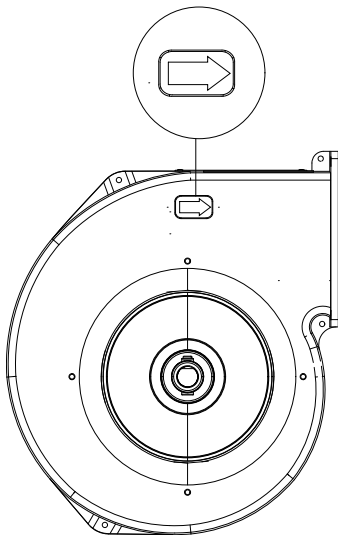

Fig. 2
The fan can be mounted in any direction. When the motor air intake is mounted upwards the intake must be protected against falling objects/liquid. Install EX 140A/180A in the correct air direction (arrow on housing), see figure 2. The fan must be installed so that service and maintenance can be performed easily and safely. Make sure the fan is firmly fixed and securely anchored. EX 140A/180A must be installed so that vibrations can not be transmitted to the duct system or building structure.
- The impeller direction of rotation is correct (direction arrow on housing, see figure 2).
- A-weighted sound pressure levels above 70 dB(A) can occur, see the product catalogue.